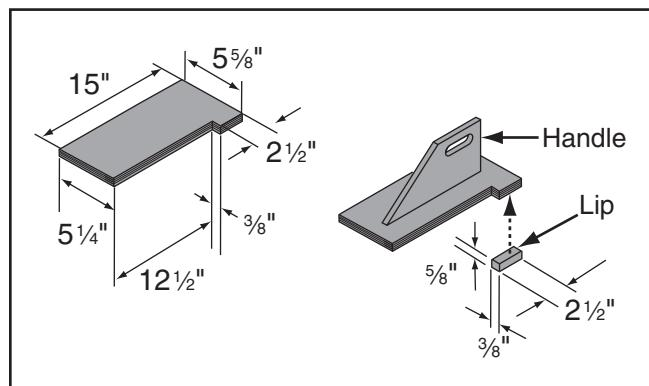

Figure 81. Push block dimensions and construction.
3. Using the $\frac{3}{4}$ " material you used in the previous steps, cut out pieces for the push block per the dimensions shown in **Figure 81**; for the handle, cut a piece 10" long by 5"-9" high and shape it as desired to fit your hand.